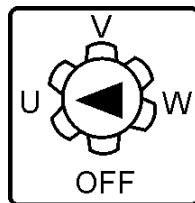
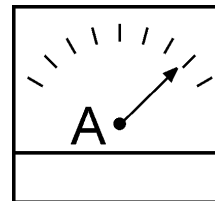

Figure 17. AC Ammeter Change-Over Switch
Figure 18. AC Ammeter
Place the **AC Ammeter Change-Over Switch** (Figure 17) in the U position and observe the current reading (load drain) on the U terminal as indicated on the **AC Ammeter Gauge** (Figure 18). This process can be repeated for terminals V and W.
1. Make sure the voltage change-over board is jumpered for 240V operation as shown in Figure 18.